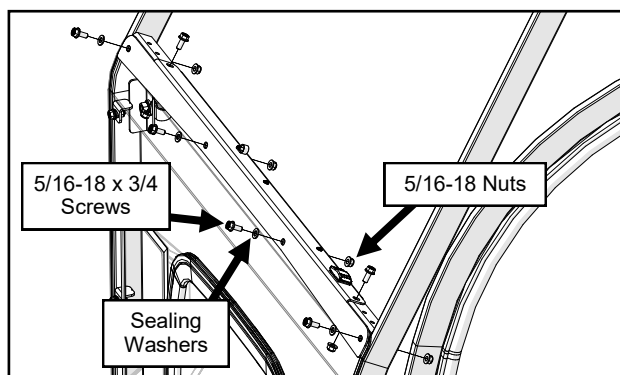

Fig. 11.1 (Install Sheet Metal Cowl)
- 11.1 With assistance, remove the sheet metal cowl and re-install it on the outside of the clear plastic cowl, then flex both into place and re-secure. See Figure 11.1. Note: the sealing washers are for the 4 exterior screws.